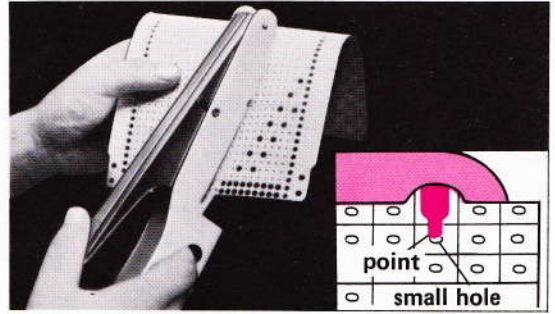

Fig. 207
4. Punch the card making sure that the point of the puncher is correctly placed in the small hole (fig. 207), if not the punched hole will be off centre and could cause knitting problems.